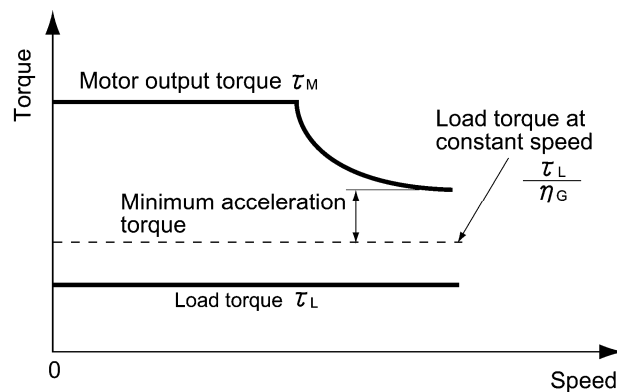

Figure 10.2-2 Example Study of Minimum Acceleration Torque
- 2) Calculate the **minimum acceleration torque** (See Figure 10.2-2.)